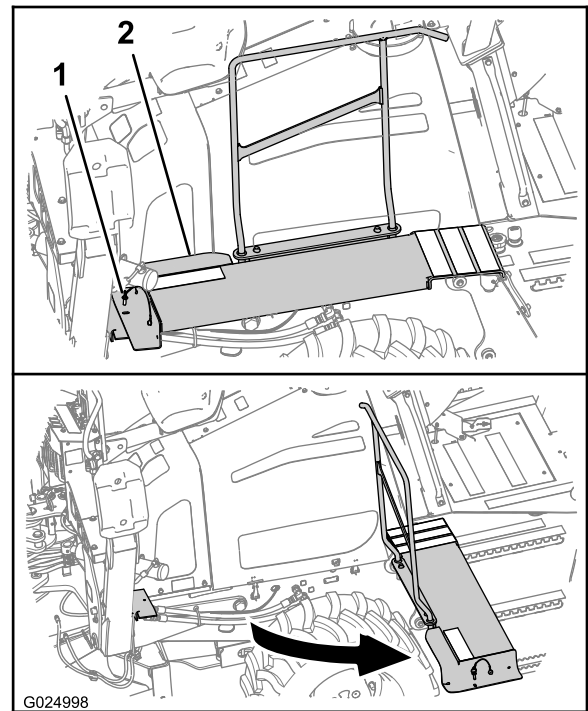

Figure 64
- A. At the left side of the machine, remove the retaining pin from the front end of the walkway (Figure 64).
- B. Pivot the walkway away from the machine as shown in Figure 64.
- A. Rotate the front end of the walkway to its original position (Figure 64).
- B. Align the hole in the walkway with the hole in the walkway support bracket (Figure 64).